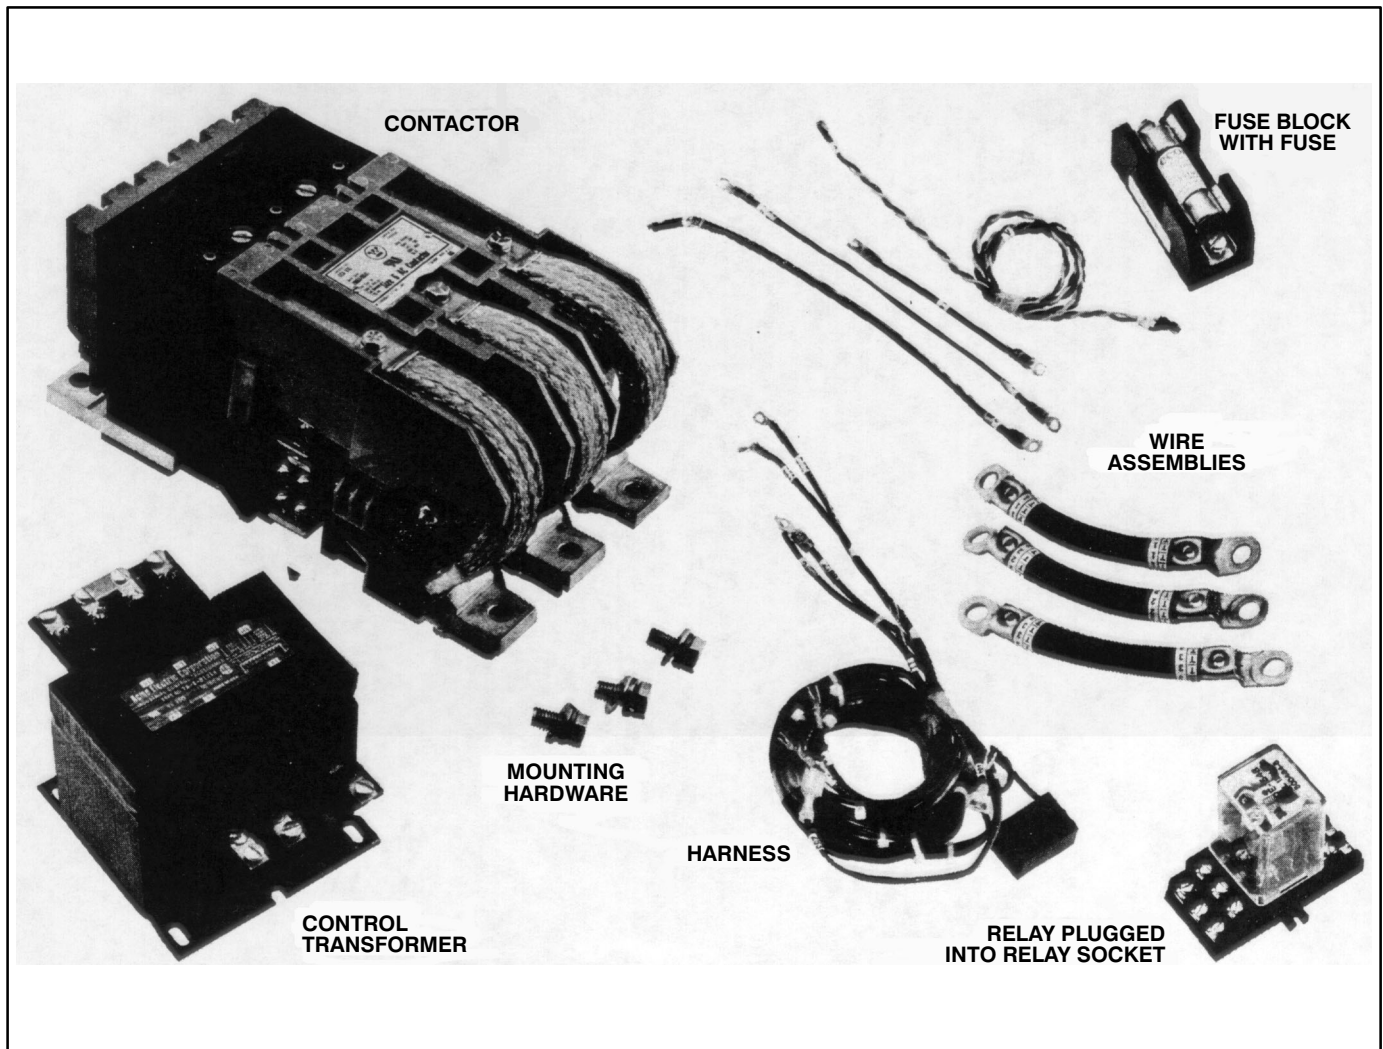

Figure 1. Kit contents.
Table 1 shows the appropriate model of Output Contactor Kit to use with each size controller. Figure 1 shows the contents of a typical kit.
13. Connect the metal jumper, supplied with the transformer, between the center two terminals (H₃ and H₂) on the input side of the transformer (Figure 1).